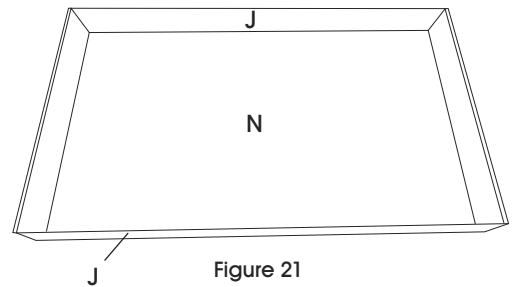

Figure 21
5. Lid is assembled. (See Figure 21)